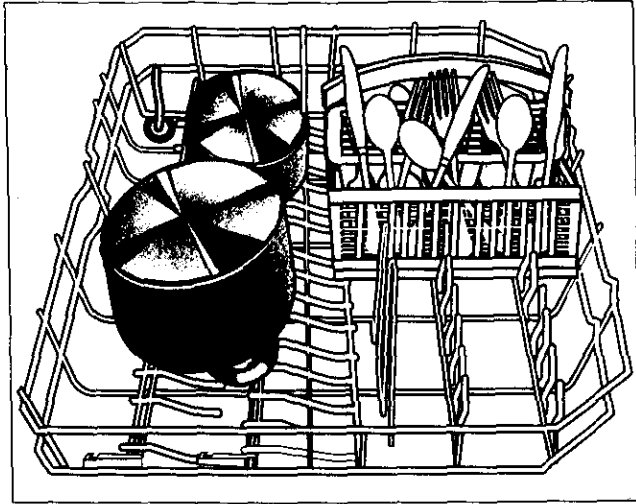

Figure 5.
- The DLX series dishwashers (SHU 4022 UC, SHU 4026 UC and SHU 4036 UC) come with a lower rack that has two sets of flipped down tines. With these models, if more space is needed for pots and pans, the rear two sets of tines can be folded to the down position. Figure 5 shows the lower basket with the rear sets of tines in the down position to accommodate large pots.